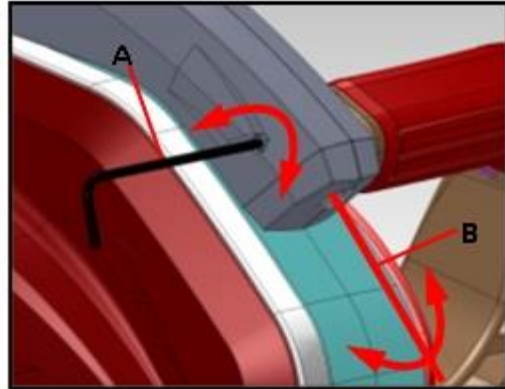

Fig.11
1. Adjusting the laser: Use an M2 Allen wrench to tighten or loosen the laser adjustment screw (A) to adjust the laser beam width. **Fig.11**